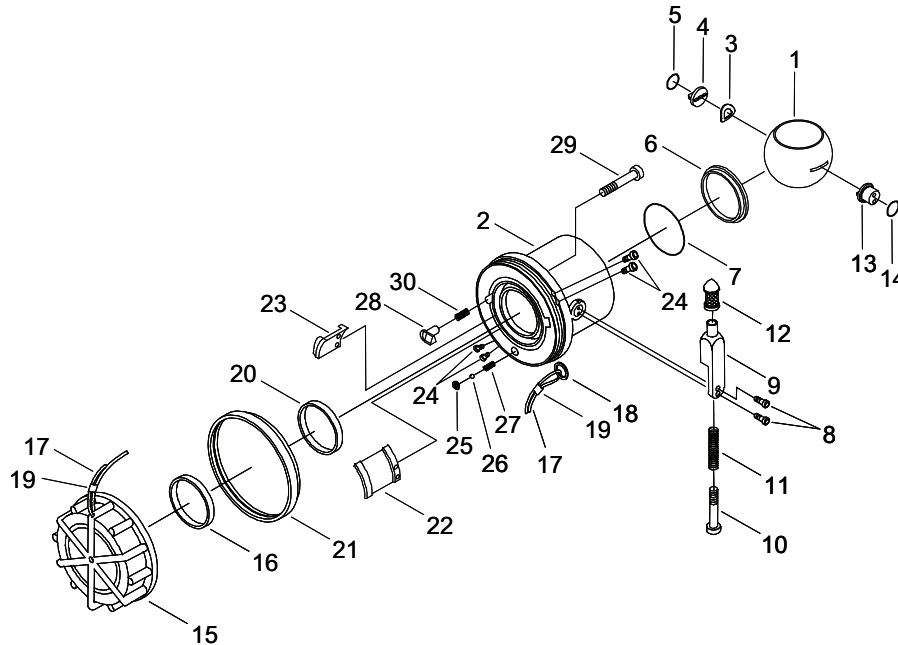

Figure 2. (Dry-Break Valve) Coupling Assembly.
1. Rotate ball valve (Figure 2, Item 1) to the closed position and remove from inside coupling (Figure 2, Item 2).
2. Remove spring washer (Figure 2, Item 3), stop pin (Figure 2, Item 4) and o-ring (Figure 2, Item 5) from inside coupling (Figure 2, Item 2).
3. Discard o-ring (Figure 2, Item 5).
4. Remove seal (Figure 2, Item 6) from coupling (Figure 2, Item 2).
5. Discard seal (Figure 2, Item 6).
6. Remove o-ring (Figure 2, Item 7) from coupling (Figure 2, Item 2).
7. Discard o-ring (Figure 2, Item 7).
8. Remove screws (Figure 2, Item 8) from control arm (Figure 2, Item 9).
9. Remove control arm (Figure 2, Item 9) from coupling (Figure 2, Item 2).
If it is necessary to disassemble control arm (Figure 2, Item 9), perform the following steps:
- a. Remove screw (Figure 2, Item 10) from control arm (Figure 2, Item 9).
- b. Remove spring (Figure 2, Item 11) from control arm (Figure 2, Item 9).
- c. Remove knob (Figure 2, Item 12) from control arm (Figure 2, Item 9).
10. Remove control arm shaft (Figure 2, Item 13) and o-ring (Figure 2, Item 14) from inside coupling (Figure 2, Item 2).
11. Discard o-ring (Figure 2, Item 14).
12. Remove dust cap (Figure 2, Item 15) from coupling (Figure 2, Item 2).
13. Remove seal (Figure 2, Item 16) from dust cap (Figure 2, Item 15).
14. Discard seal (Figure 2, Item 16).
If it is necessary to replace dust cap (Figure 2, Item 16), perform the following removal steps:
- a. Cut cable (Figure 2, Item 17) or remove split ring (Figure 2, Item 18) from coupling (Figure 2, Item 2) and cable (Figure 2, Item 17).
- b. Cut cable (Figure 2, Item 17) from dust cap (Figure 2, Item 15).
- c. Remove cable (Figure 2, Item 17) and sleeve (Figure 2, Item 19).
15. Remove seal (Figure 2, Item 20) from coupling (Figure 2, Item 2) interface.
16. Discard seal (Figure 2, Item 20).
If it is necessary to replace bumper (Figure 2, Item 21) or lugs (Figure 2, Item 22, 23), perform the following steps:
- a. Remove bumper (Figure 2, Item 21) from coupling (Figure 2, Item 2).
- b. Remove screws (Figure 2, Item 24) from coupling (Figure 2, Item 2).
- c. Remove lug (Figure 2, Item 22) or lug (Figure 2, Item 23) from coupling (Figure 2, Item 2).
- Do not remove spring washer (Figure 2, Item 25), ball bearing (Figure 2, Item 26) or spring (Figure 2, Item 27). If replacement of ball bearing (Figure 2, Item 26) is required, then coupling (Figure 2, Item 2) must be replaced.
- If it is necessary to replace lockout pin (Figure 2, Item 28), perform the following removal steps: